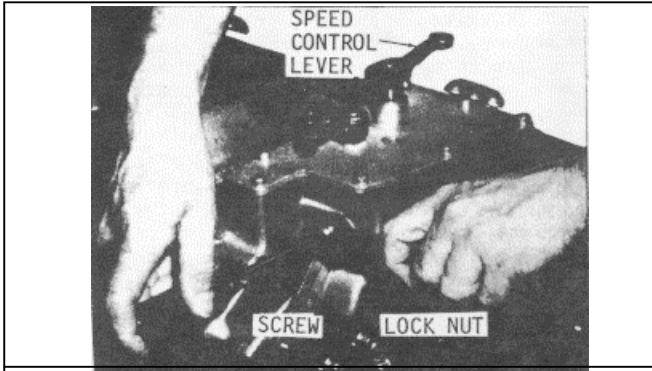

Fig. 11
- (1) Remove the high speed spring retainer cover.
- (2) Back out the buffer screw until it extends approximately 5/8U from the locknut (Fig. 11).
- (1) With the engine running at normal operating temperature, turn the buffer screw (Fig.11) in so it contacts the differential lever as lightly as possible and still eliminates the engine roll.